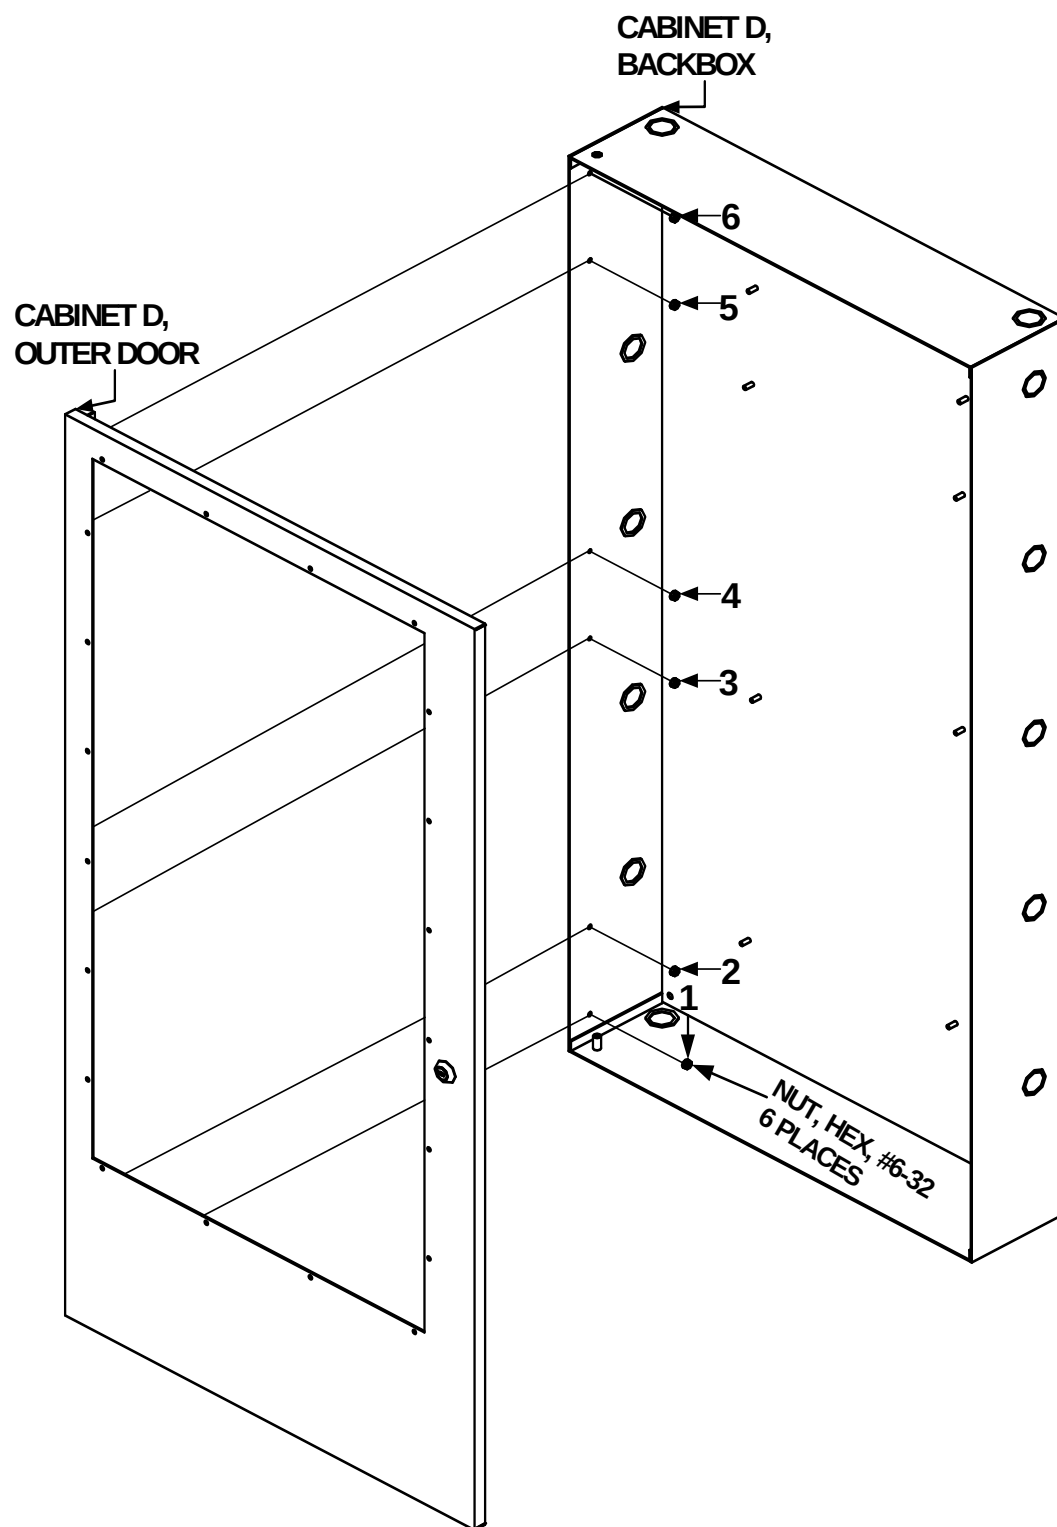

Figure 2.5.10.3.1 Cabinet D, Outer Door Installation
1. Mount the ILI-MB-E3/ILI95-MB-E3/ANX over the standoffs on the E3-INX-D plate and secure the eight (8), standoffs, (3/16" hex, #4-40 x 1") in the eight-hole mounting pattern as shown in Location 1 of Figure 2.5.10.4.2.